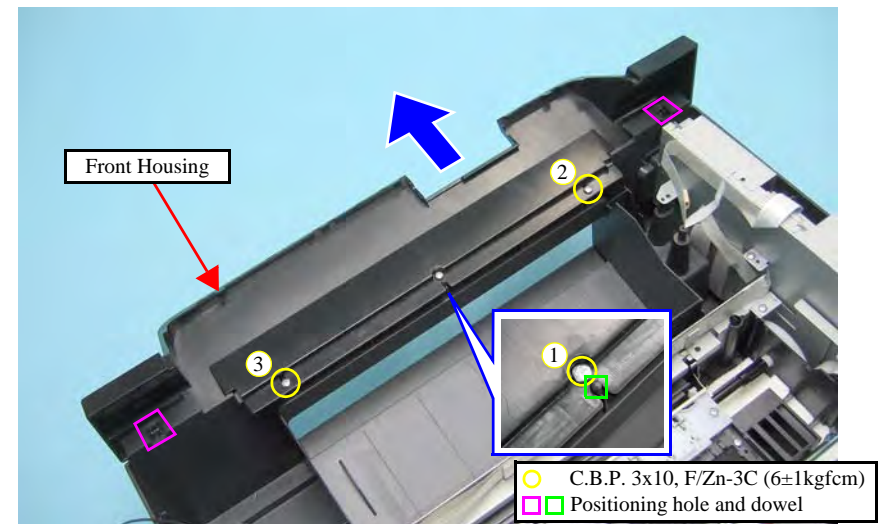

Figure 4-12. Removing the Front Housing
- When installing the Front Housing, tighten the screws in the order given in Figure 4-12.